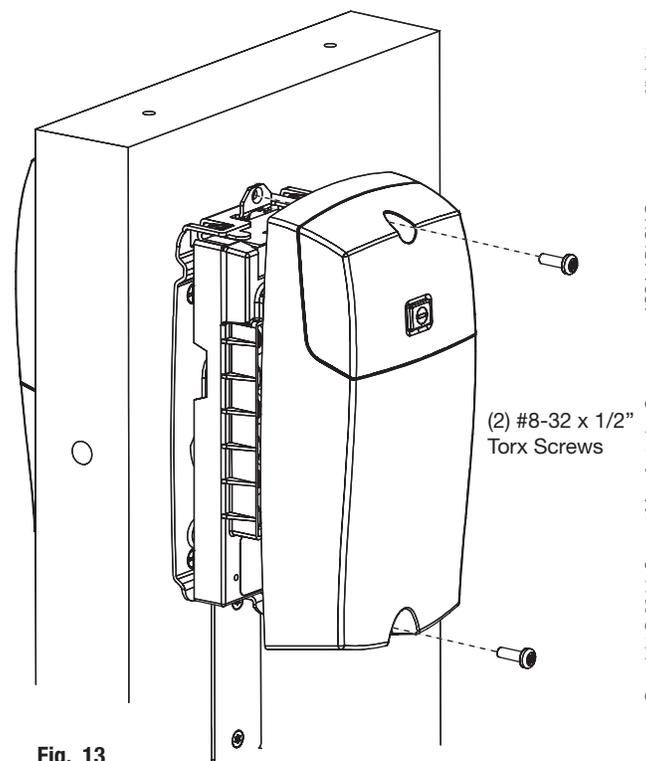

Fig. 13
1. Position inside escutcheon as shown (Fig. 13).